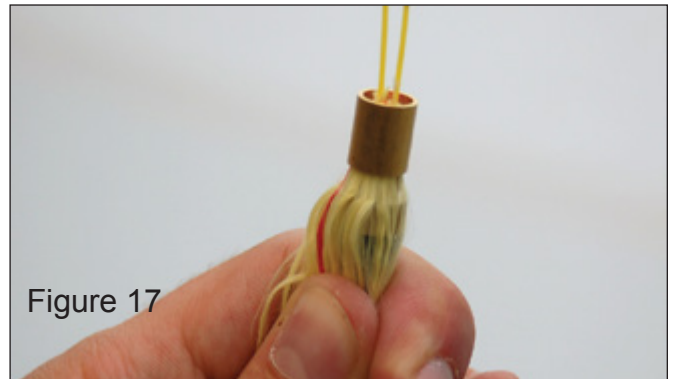

Figure 17
7.2 Move the Kevlar retainer towards the heat shrink until it bottoms out on the cable end. Pull the Kevlar tight and slide the crimp sleeve over the Kevlar. Rotate the crimp sleeve leaving a crease on the Kevlar. See Figure 17.